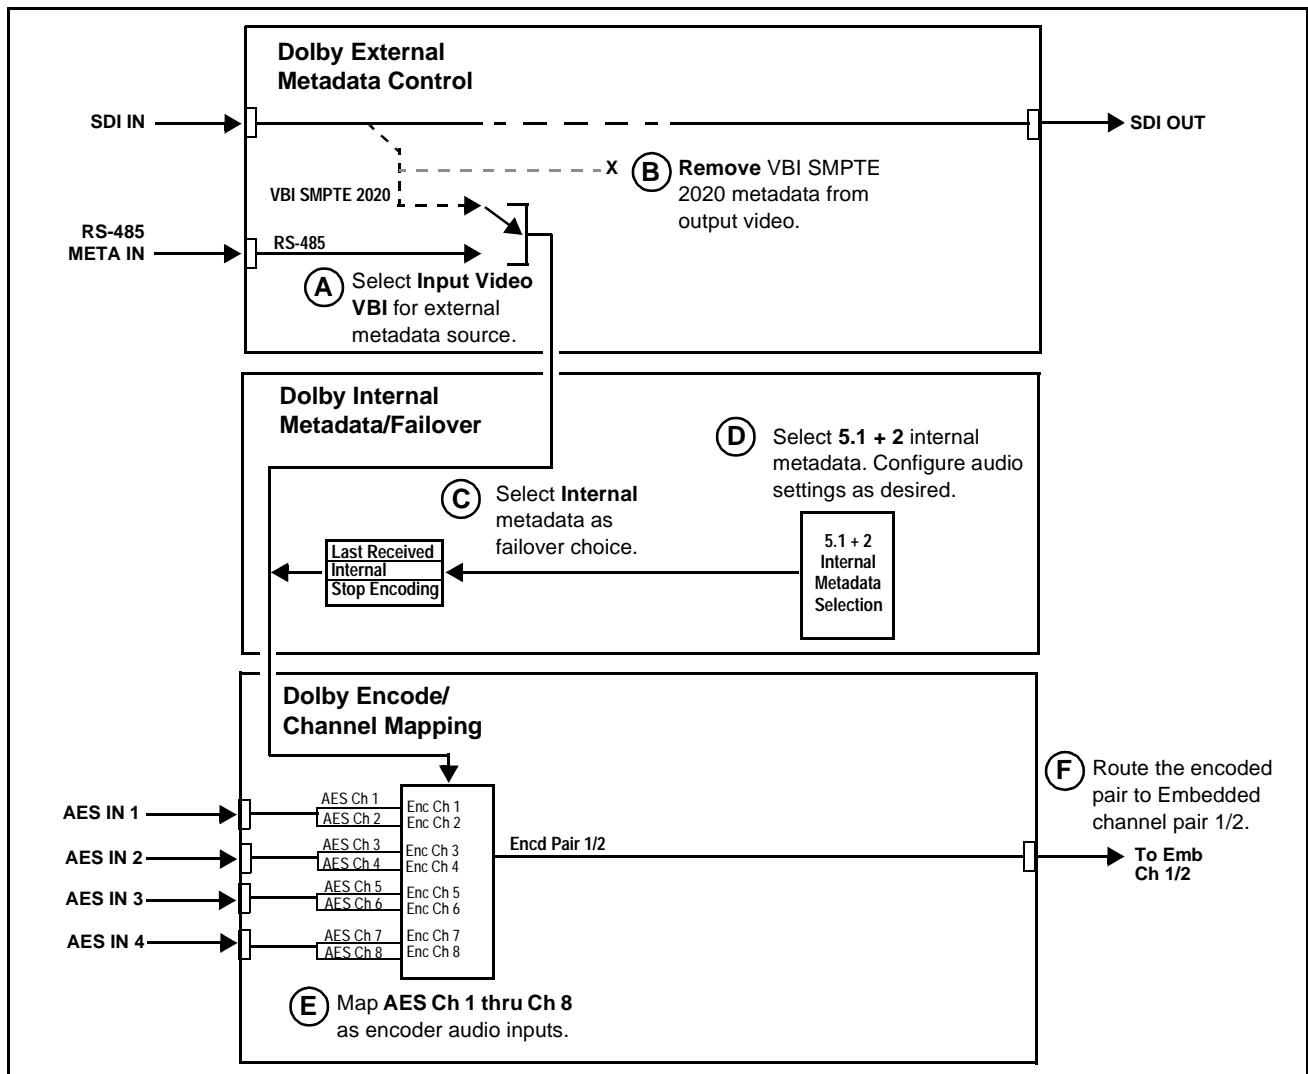

Figure 3-8 Dolby® E Setup Example (Sheet 1 of 2)
Figure 3-8 shows an example setup of using the 9083 Dolby® controls and audio routing controls to perform the following:
Figure 3-8 (sheet 1) shows this setup consisting of steps (A) through (F). Figure 3-8 (sheet 2) correspondingly shows the DashBoard™ function tabs and control settings that are used for this setup.